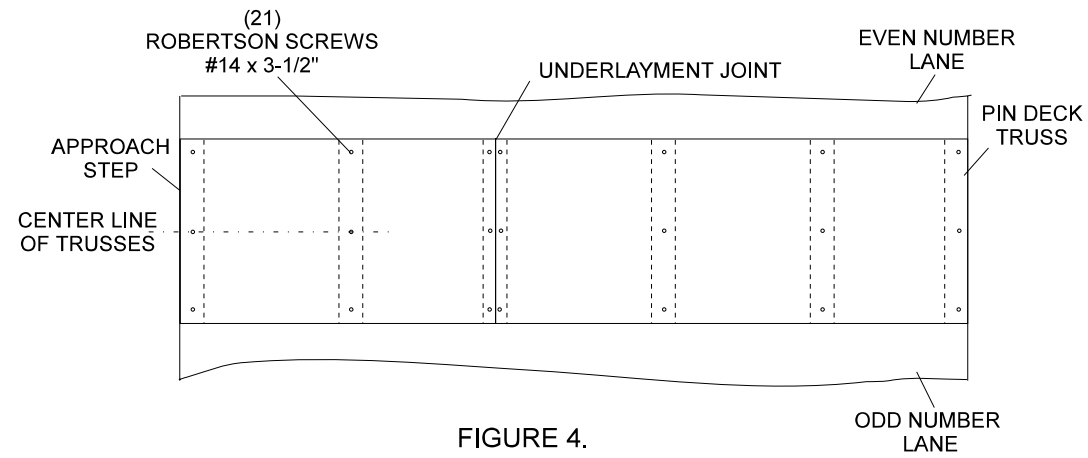

FIGURE 4.
3. Cut one of these pieces of underlayment to the length required to fill the area between the pit side of the truss installed at the foul line and the center of the truss installed at the 118-1/4" dimension. Reference *Figure 4*.
4. Cut the second piece of underlayment to the length required to fit the opening between the center of the truss installed at 118-1/4" dimension to the approach step. Reference *Figure 4*.